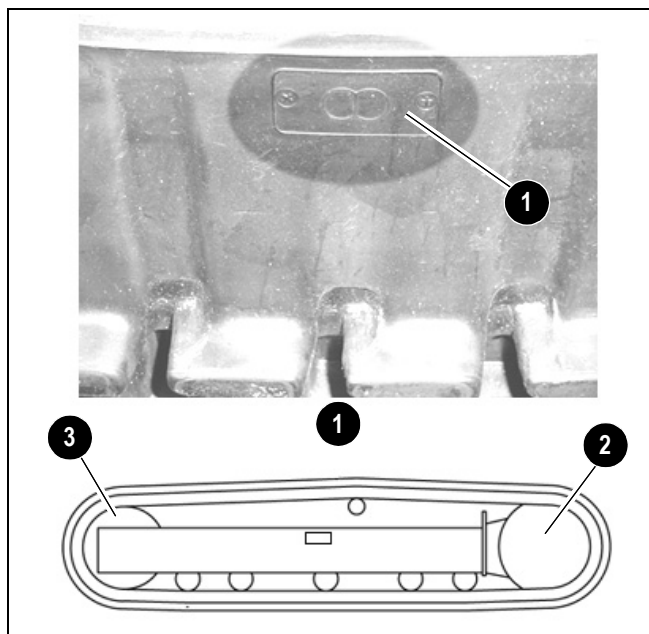

Figure 4-20 Rubber Track Tensioning Positioning
1. Position the machine on a level surface. On machines equipped with rubber tracks, position the excavator so the tracks are positioned with mark (1, Figure 4-20) on the top span of the track in between drive pinion (2) and track tension roller (3).